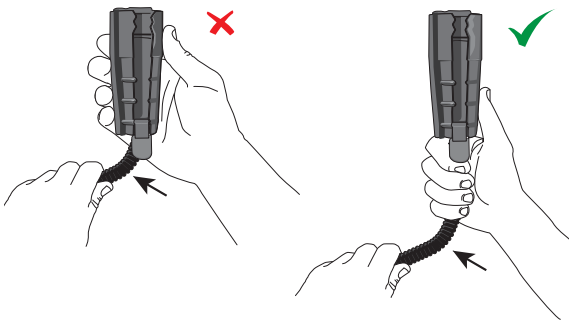

Figure 16
e. A cable bend that is closer than 4 inches (102 mm) from the installed closure could create a bend inside the closure and will likely not allow a proper seal. A good way to gauge the 4 inch (102 mm) distance is to mirror the palm of an average man's hand. A bend should not occur in this area. See Figure 16.